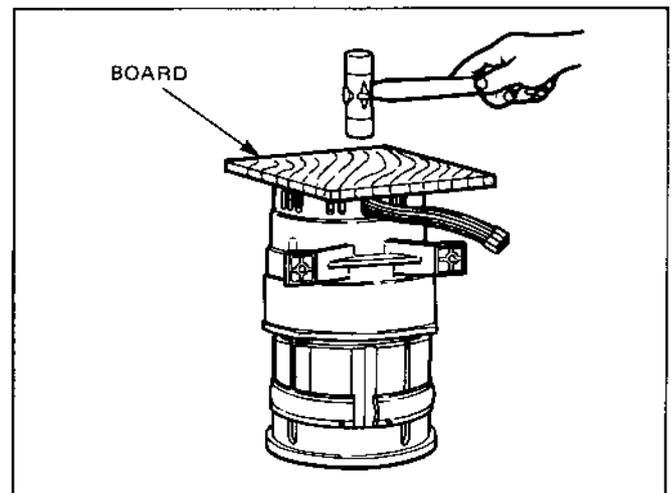

Fig. 10-28
- (2) Insert 4 guide bolts in the rear cover and let them match with the grooves in the stator and set the rear cover over the stator.
- (3) Take the stator leads out from the window of the rear cover.
- (4) Tap lightly and evenly the upper surface of the rear cover with plastic hammer and press the rear cover over the stator. (See Fig. 10-28.)